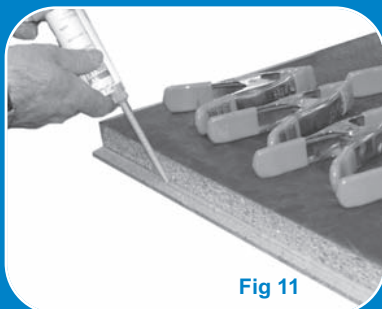

Fig 11
4. Apply a bead of adhesive along the full length of the lip. Then apply beads of adhesive to the top, centre, bottom and two short edges of the edging strip (fig 11).